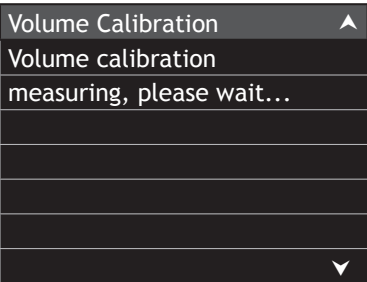
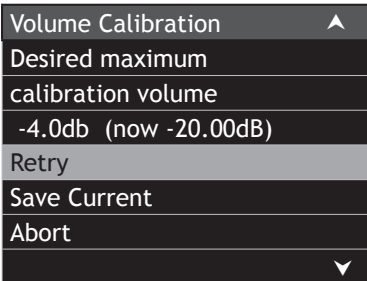
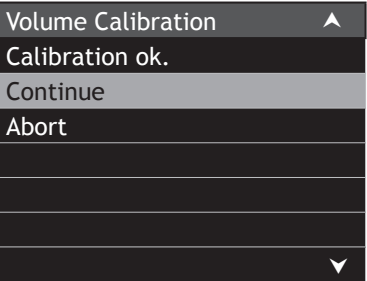
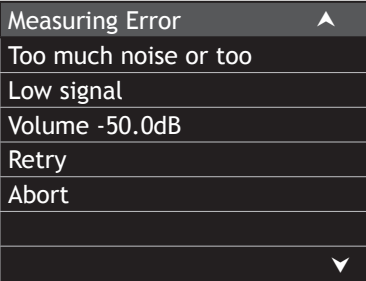

Figure 27
Figure 28
Figure 29
Figure 30
5. Press the SELECT Push-button and the “Volume Calibration measuring” will appear. Refer to figure 27. The MX150 will send out to each of the loudspeakers, one at a time, a test tone to obtain a measurement level making sure it is above the background noise level in your room. Several minutes after testing, figure 28 (on page 26) will appear on-screen. Select “Save Current” and press the SELECT Push-button. When figure 29 (on page 26) appears On-Screen, select continue and press the SELECT Push-button.
Note: The Desired maximum calibration volume (-4.0db) level and the current (now -20.00dB) volume indications in figure 28 will probably be different in your room. The size of your room, loudspeaker distance from the microphone position and the efficiency of the loudspeakers all effect the readings. If the test signal was too loud, reduce it by using the Volume Control by 10dB (the example in figure 28 would now read -30.00dB). Select "Retry" then "Save Current". If for some reason the volume level needs to be higher, a "Measuring Error" will appear on the screen refer to figure 30.